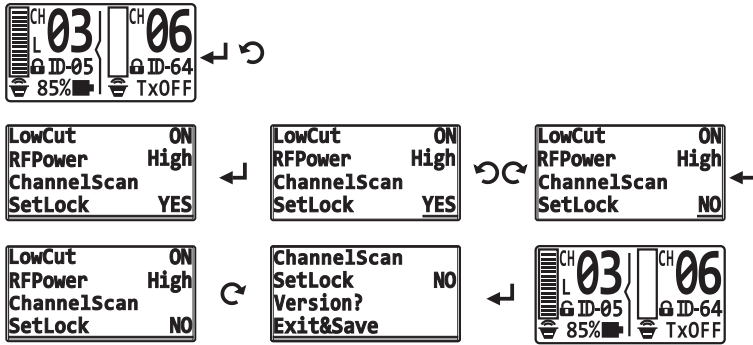

Fig. 25
- (A) Press knob once at Home Screen, turn and locate Channel Scan status bar. Press once to activate scanning for a clear channel.
- (B) After scanning, turn knob right or left to select the least interference channel. To save changes, turn and locate Exit & Save status bar, press once to save and return to home screen.
- (C) Press ACT sync button to synchronize the newly changed with transmitter once Channel Scan setup is done.
- (D) Channel Scan scans the surrounding environment for RF signal strength to enable selection of the least interference channel(s) for performance.
- (E) Caution:
8. Setting Parameter Lock, see Fig. 25: